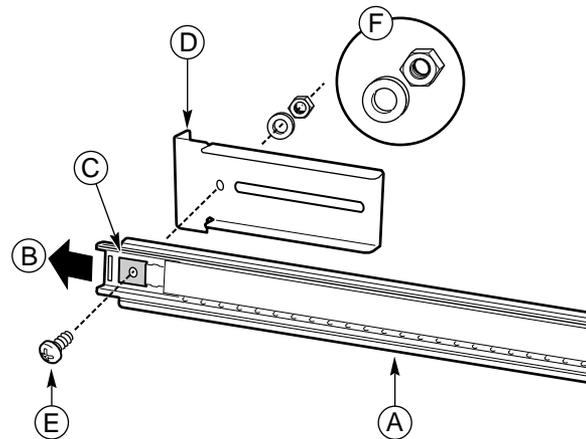

Figure 5 Correct Alignment of Screw, Washer, Locknut, Bracket, and Assembly (FL/RR)
2. Extend the intermediate member out from the outer member so that the hole at the front end of the outer member is visible through a rectangular hole in the intermediate member. Item B in Figure 5 shows the direction in which you must extend the intermediate member.
4. Place a screw in the holes from inside the intermediate member and tighten with a washer and lock nut. The correct alignment of the screw, washer, locknut, bracket, and slide assembly is shown in Figure 5.